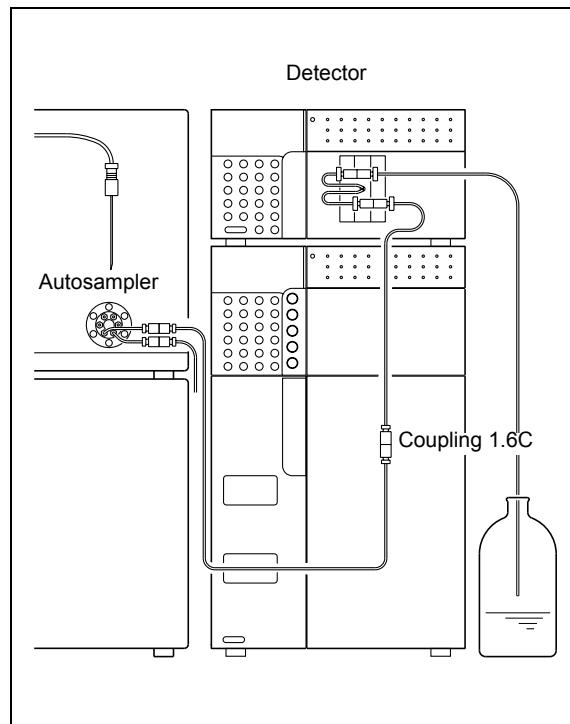

Fig. 7.6
- 3** Clean the system flow lines using one of the procedures described below. Before cleaning the flow lines, remove the column from the system, and connect the column inlet to the column outlet with a coupling 1.6C. ("Fig. 7.6").